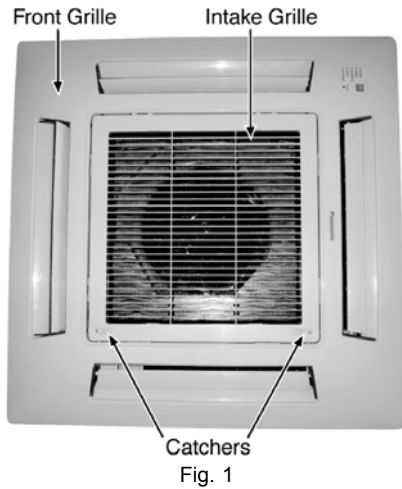

Fig. 7
2. Electronic Controller (Fig. 7).